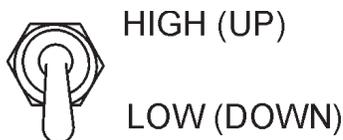

Figure 63. Engine Speed Switch
2. Set the engine speed switch (Figure 63) to the idle (low) position.